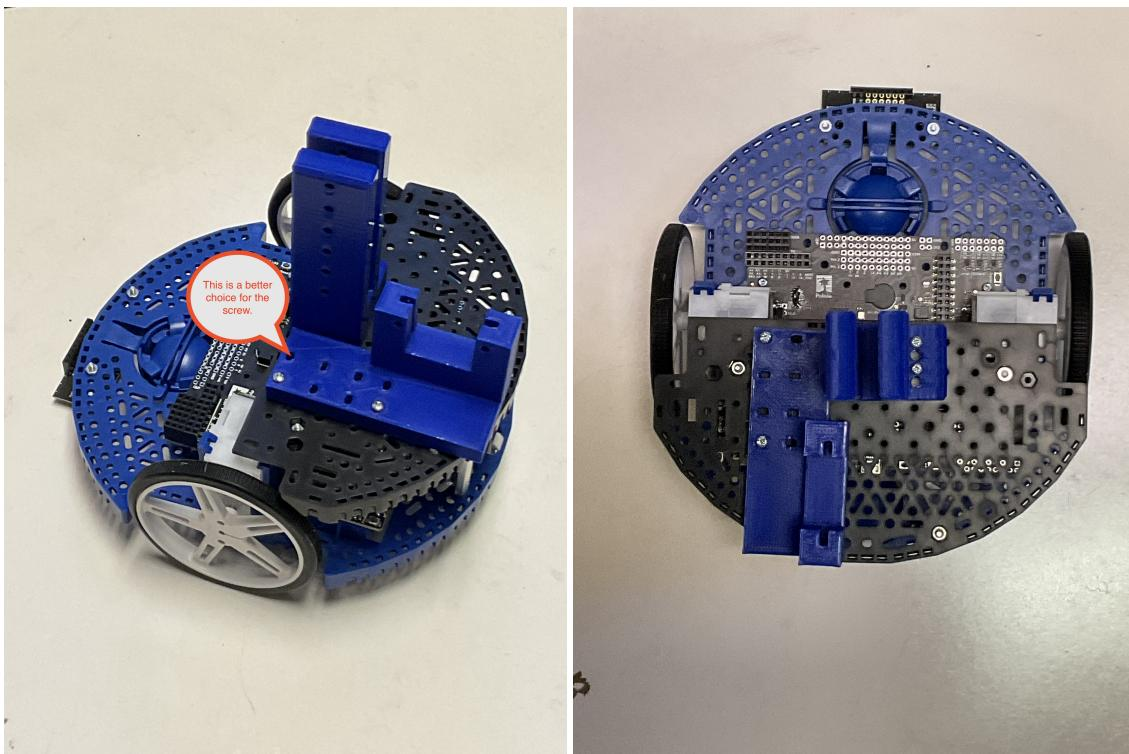
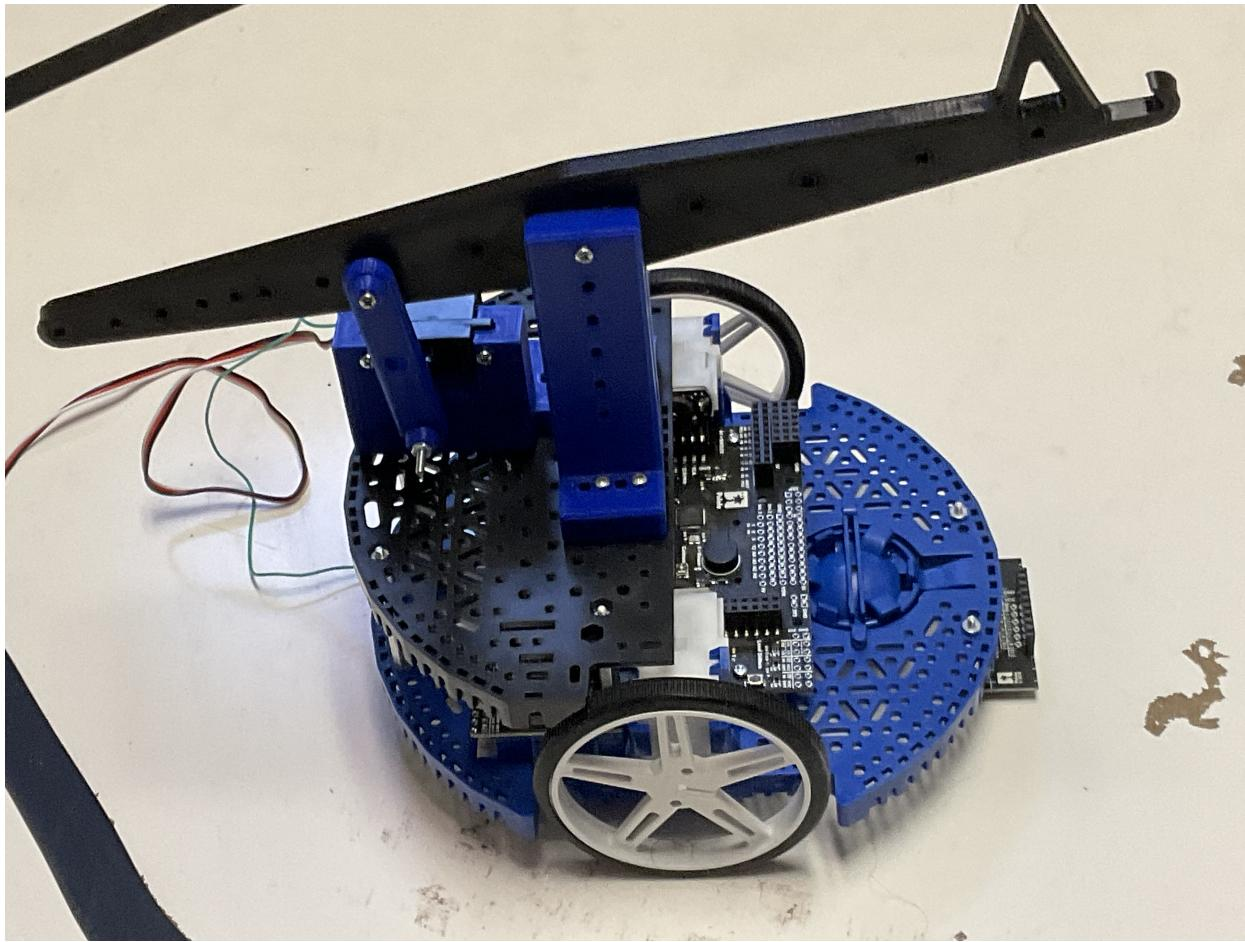

Figure 4: Servo and arm mounts mounted. Once you install the mounts, you can attach the expansion plate to the base, as shown in this figure.
Figure 8: Romi with arm assembly complete.
2. Attach the servo and arm mounts to the expansion plate with 3/4" screws. Relative alignment is important so that the coupler can connect the servo horn to the arm. Figure 8 shows what you are working towards. Figure 4 shows a good starting configuration for the mounts.
6. Attach the expansion plate/arm assembly to the Romi base, as shown in Figure 8. Note that some of the screws screw in from the battery compartment.